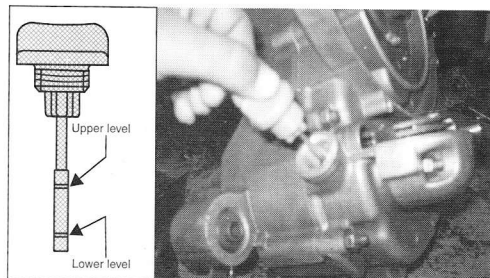

Fig. 34
For checking the oil level, unscrew dipstick as shown in fig. 34.
- Take out dip stick and check the level of oil, as fig. 34. Oil level should be above lower level mark and below upper level mark.